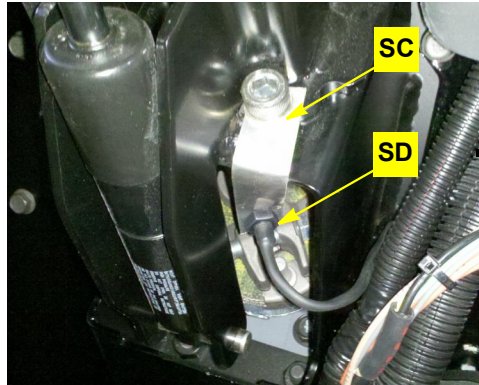

Figure 2b: Installed switch
- b. Install switch **SD** in bracket **SC** (Figure 2b)